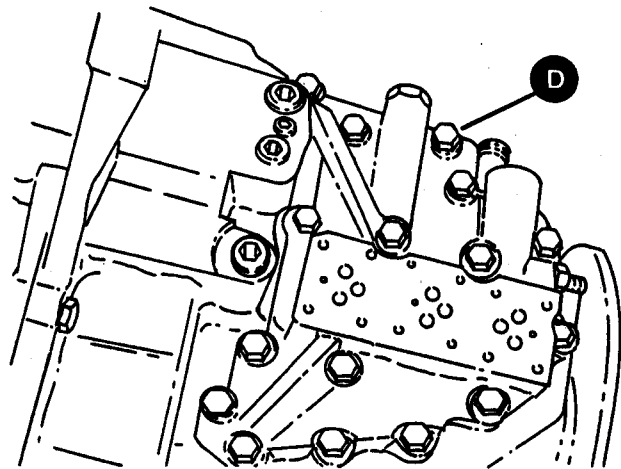

Figure 10.
7. Unscrew sixteen bolts (D, Figure 10) and remove the solenoid adapter block. Remove and discard the solenoid adapter block gasket.